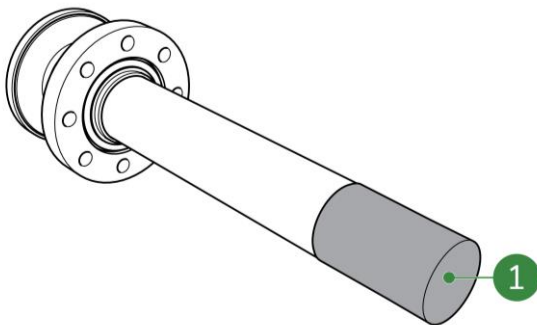

Figure 5-10: Black protective cap
3. Remove the black protective cap (Figure 5-10, pos. 1) from the sensor.